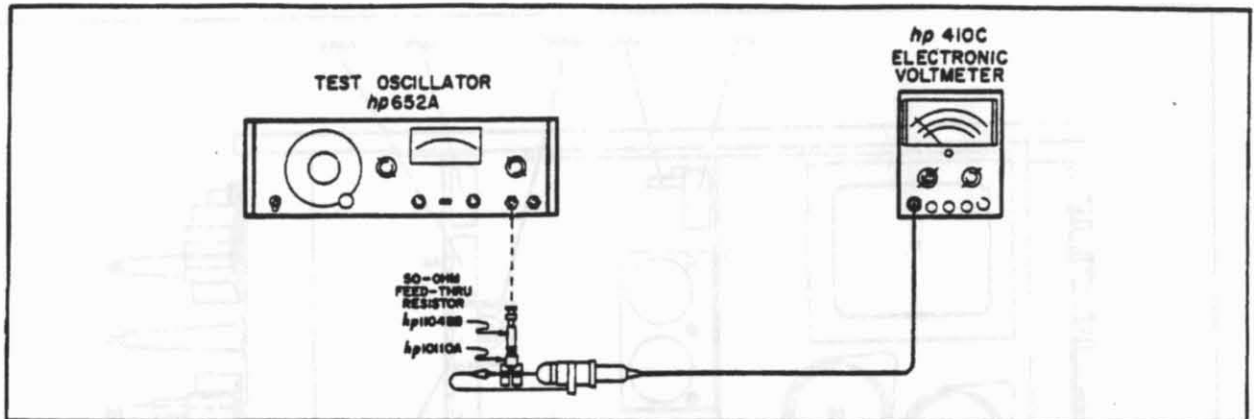

Figure 5-3. Low Frequency Response Test.
- b. Connect Model 410C as shown in Figure 5-3.